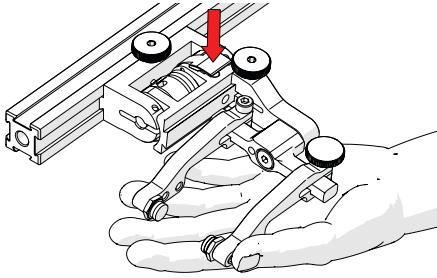

Fig. 39 - Lift slightly and press Latch
2. Lift probe holder slightly and press the latch button (Fig. 39) to release the probe holder the full 45° degrees.